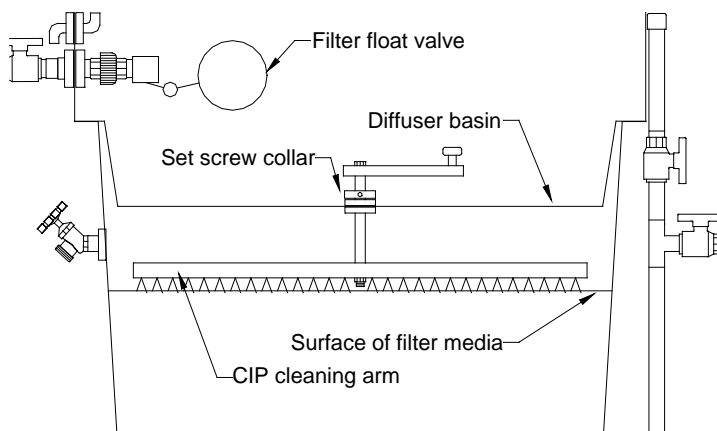

Figure 5-1
**Step 2.** Place the diffuser basin into the filter. Adjust the height of the CIP cleaning arm, using the set screw collar, so that it rests on the surface of the filter media. Attach the filter float valve (figure 5-1).